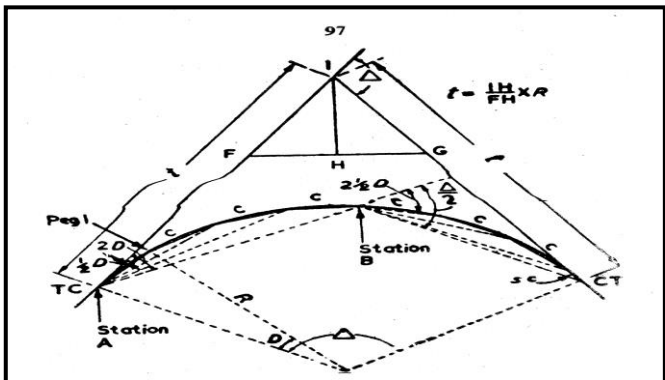

Figure 11.17 – Setting Out Simple Curves by Theodolite.
1155. Setting out by theodolite or compass (see Figure 11.17):
- e. If the whole curve cannot be ranged from the TC, set up again at any convenient chord point, say station B in Figure 11.17. Take a backsight on the TC and traverse 180 degrees.